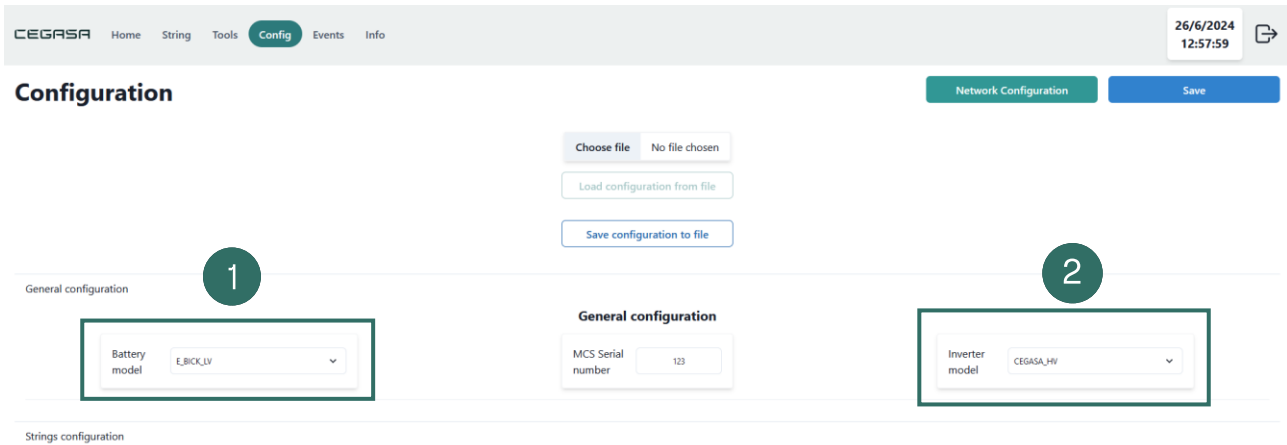

Figure 2-1. Web app. Configuration Screen – General Configuration Tab.
1. **Battery model**, on the General Configuration tab (1, Figure 2-1). Select the CEGASA Module: For example, EScal
2. **Inverter model**, on the General Configuration tab (2, Figure 2-1). The Battery System can work with various compatible inverter models. These inverters have different communication protocols and logs.